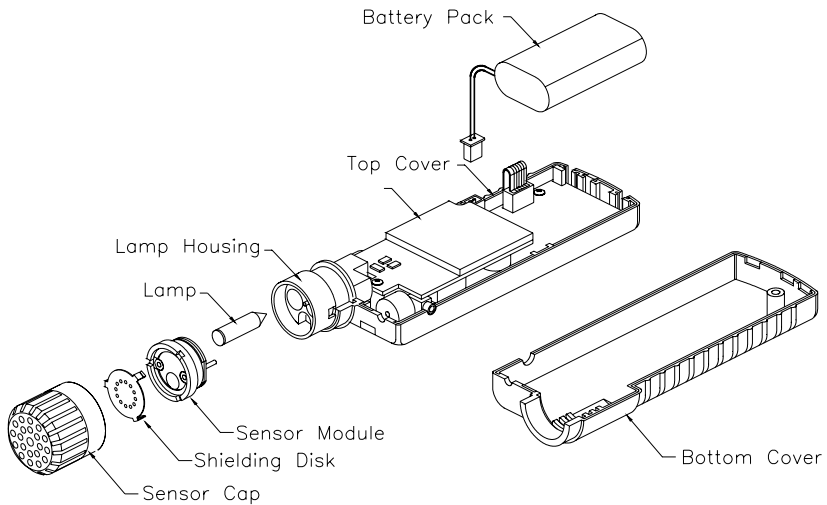

Figure 7.1 Main Components of ToxiRAE
As shown in Figure 7.1, the major maintenance items of a ToxiRAE PLUS are:
2. Refer to Figure 7.1, unscrew the sensor cap, remove one screw and open the Pocket PID unit covers.
The sensor module is made of several components and is attached to the lamp-housing unit as shown in Figure 7.1.
2. Refer to Figure 7.1, unscrew the sensor cap. Remove the sensor module and filter by grabbing the edge of the sensor module and gently pulling out the entire assembly.
3. Refer to Figure 7.1, carefully remove the filter from the sensor module.
7. Refer to Figure 7.1, re-assemble the cleaned sensor module and the filter.
9. Refer to Figure 7.1, insert the sensor module and filter into the lamp housing. Make sure that the two pins on the sensor module is aligned with the two jacks on the lamp housing and the pogo pin of the lamp housing goes through the hole on the sensor module. Re-install the sensor cap to the Pocket PID Unit.
2. Refer to Figure 7.1, unscrew the sensor cap. Remove the sensor module and filter.